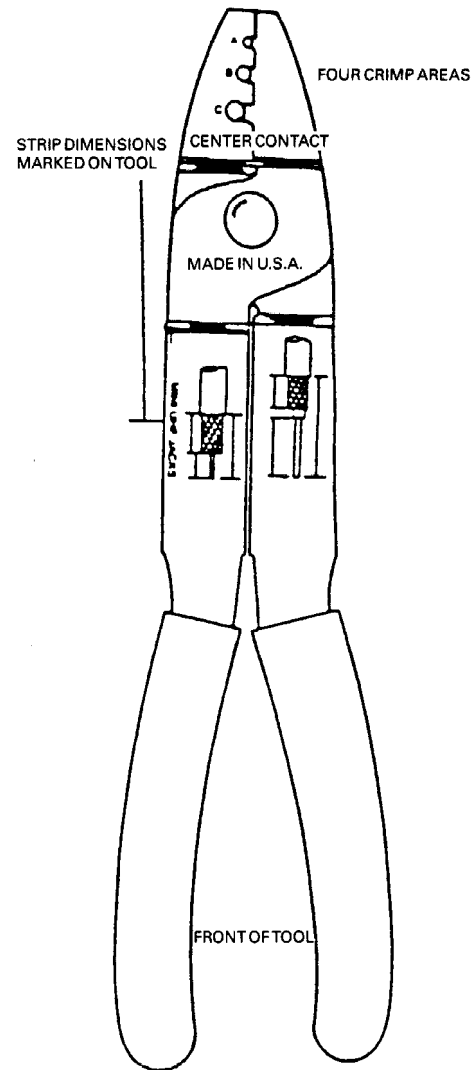
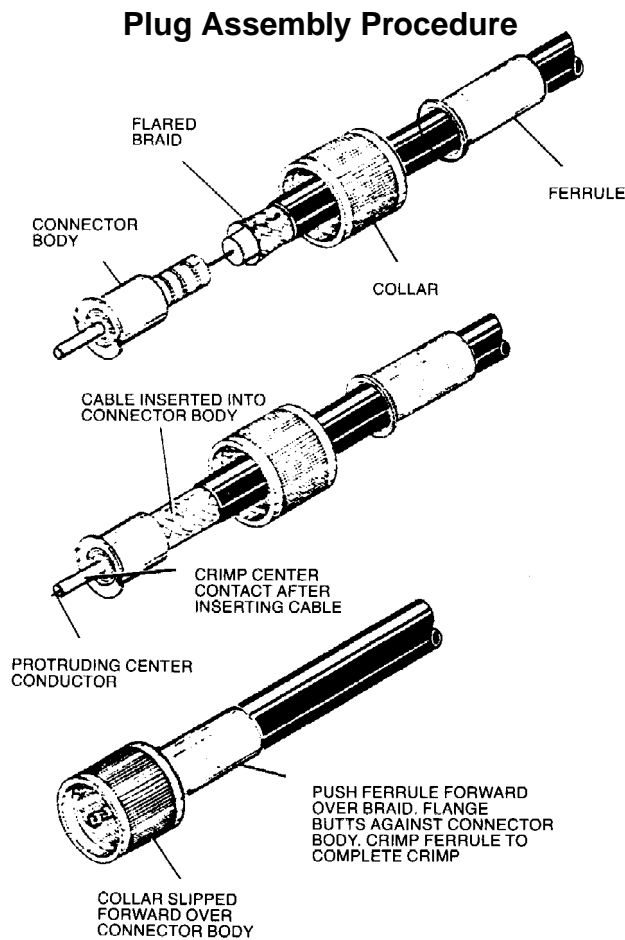

Figure 12.
Figure 13. Plug Assembly Procedure
Use Motorola hand tool part #66-80388A26 (Refer to Figure 12). A deluxe ratchet type tool is available; order part #66-80334B40.
- Slip ferrule and collar onto cable. Refer to Figure 13.
- Insert stripped cable into plug body until conductor is exposed (front end) and dielectric bottoms inside body. Refer to Figure 13.
- Crimp center contact using proper crimp section of tool. Refer to Figure 12 marked "CENTER CONTACT."
- Push collar forward onto plug assembly. Fit cable braid over the support sleeve of the connector. Refer to Figure 13.
- Push ferrule over braid until flange butts against connector body. Refer to Figure 13. Using the correct crimp area of the tool, crimp the ferrule close to the plug body. See Figure 12, crimp location "C." Crimp ferrule a second time close to the cable end.